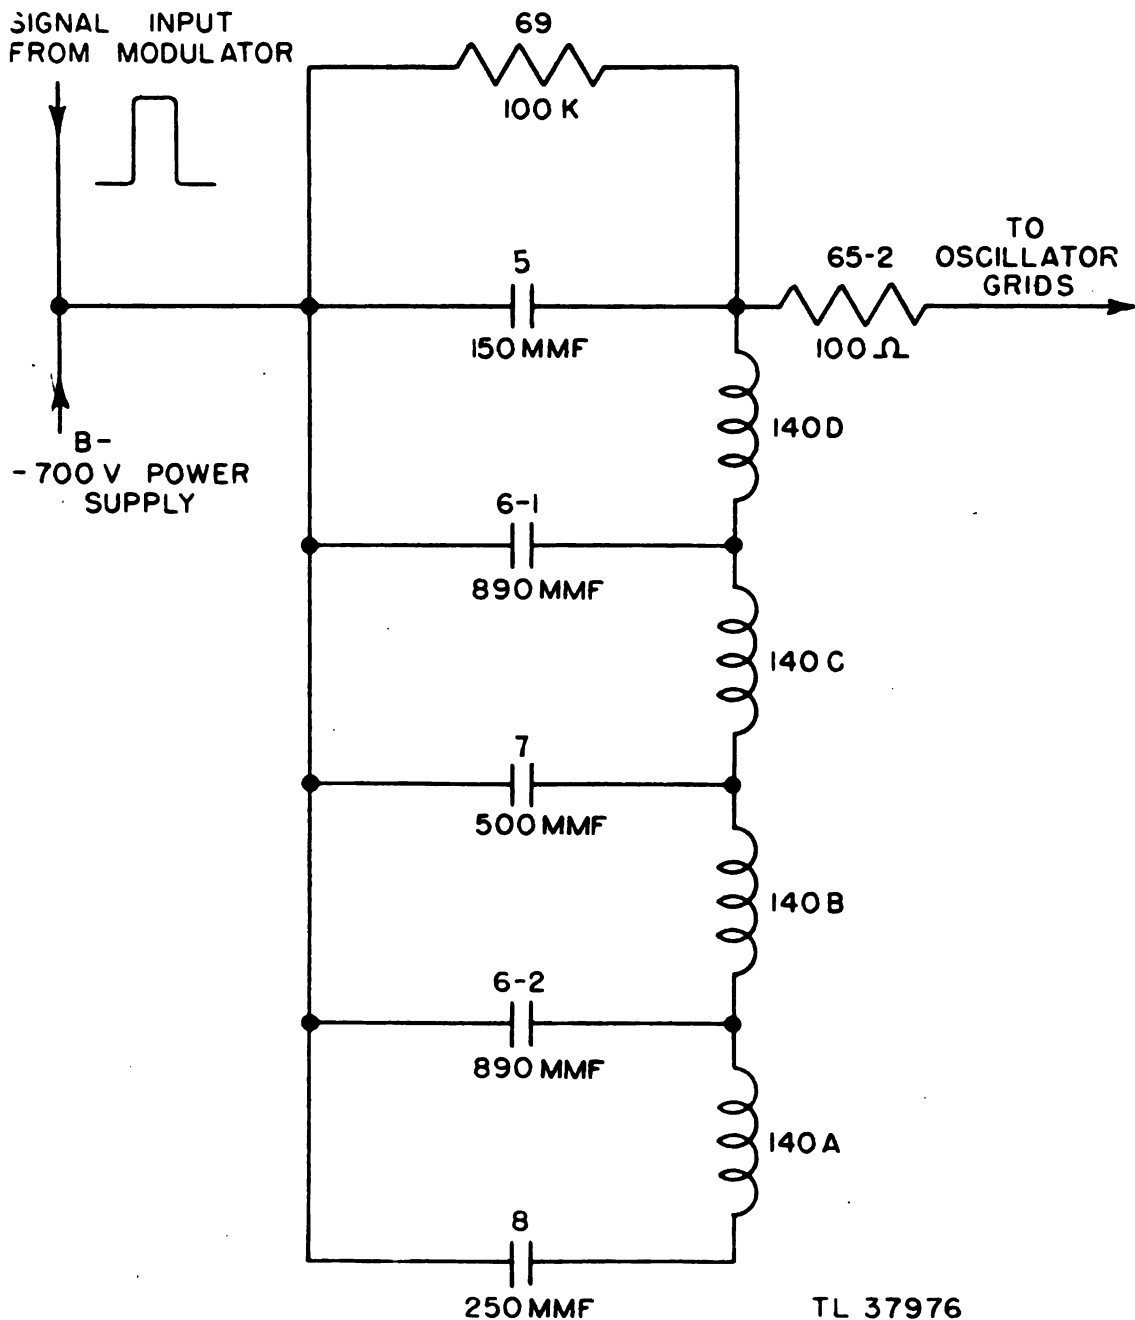

Figure 13. Artificial line, partial schematic.
a. GENERAL. An artificial line is used between the output of the modulator VT-100 and the grids of the r-f oscillator tubes in order to control the width of the r-f pulse emitted by the oscillator. The artificial line consists of a network of inductances and capacitors the electrical characteristics of which are so proportioned that the travel time of a wave from the input of the line and back again is 6.66 microseconds. Its presence is necessary because the r-f oscillator has plate voltage on it at all times and if an ordinary pulse were supplied to its grid circuit it would not stop oscillating promptly at the cessation of the pulse. (See fig. 13.)